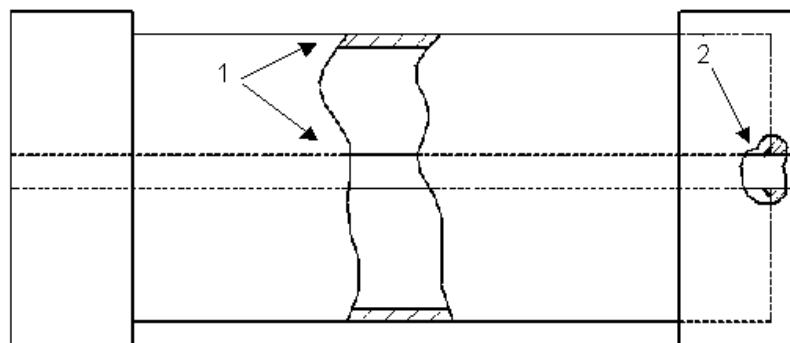

Fig. 2.44: Broken Out Section
- **Broken out Section:** A portion of the object is broken out to show internal features without cutting the entire part (Fig. 2.44).